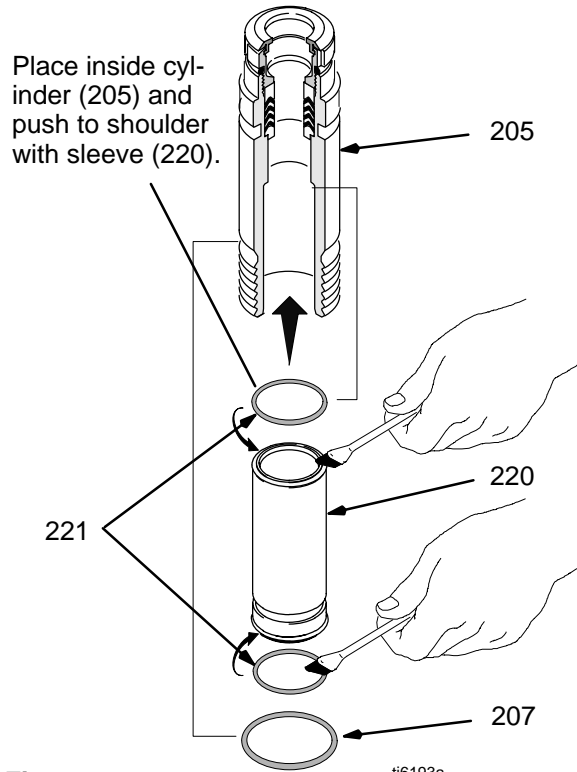

Fig. 14
Fig. 14. Grease o-rings (221) and place inside cylinder (205) and on sleeve (220). Slide sleeve (220) into bottom of cylinder (205). Replace o-ring (207) if desired.